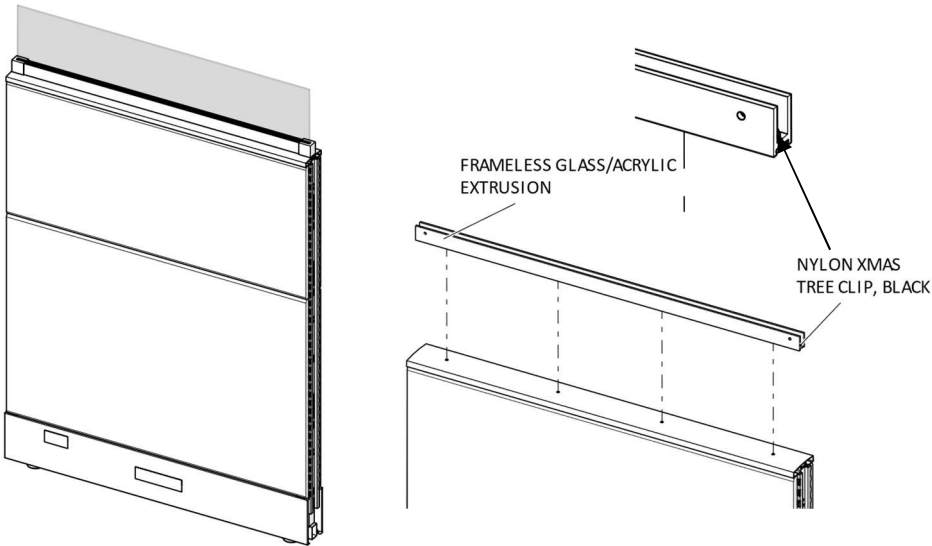

FIGURE 1
1. Check the panel top mounted glass /acrylic Frameless Glass/Acrylic Extrusion if there is a X-mas tree on both ends before placing it on top of the top trim, (Figure 1).